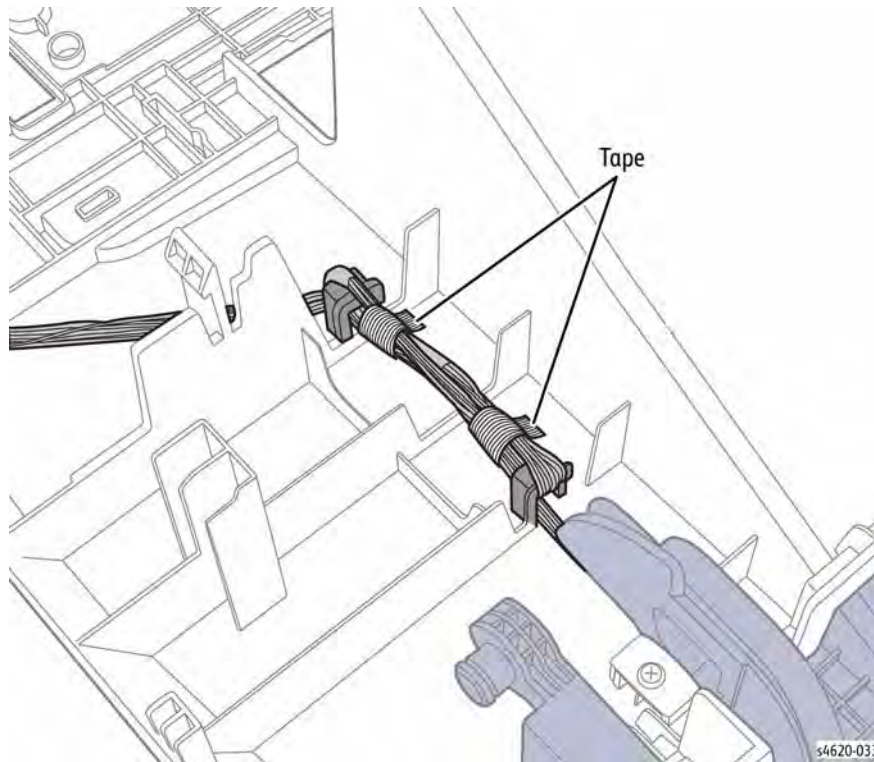

Figure 1 Release the Control Panel harness
6. Release the Control Panel harness from the hooks, Figure 1.